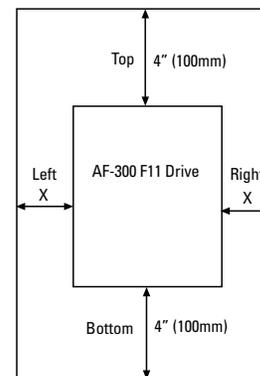

Fig. 2-2-1 6KF11L080, 6KF11H044 and below: Gap X can be 0. (side-by-side installation) 6KF11L115, 6KF11H060 and above: Gap X >= 2.0" (50mm)
1. Securely fasten the product in an upright position on a solid structure with the tag AF-300 F11 facing the front. Do not turn the product upside down or install in a horizontal position. Fig. 2-2-1
2. Since heat is generated during drive operation, the spaces shown in Fig. 2-2-1 are required to ensure sufficient cooling. Do not install the product beneath a device sensitive to heat as heat radiates upward.